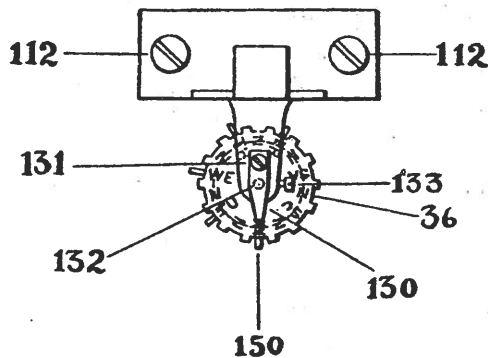

Fig. 4
1. Place your finger against **front edge of indexed ratchet wheel 36**, Figs. 4 and 5, and turn it from **left to right** until the pointer 130, Figs. 4 and 5, stands at the index of the day or night on which you are setting it. If you set it between 6.00 a. m. and 6.00 p. m., set to "Mo"; if after 6.00 p. m. Monday, set to the "N" following "Mo" and so on.